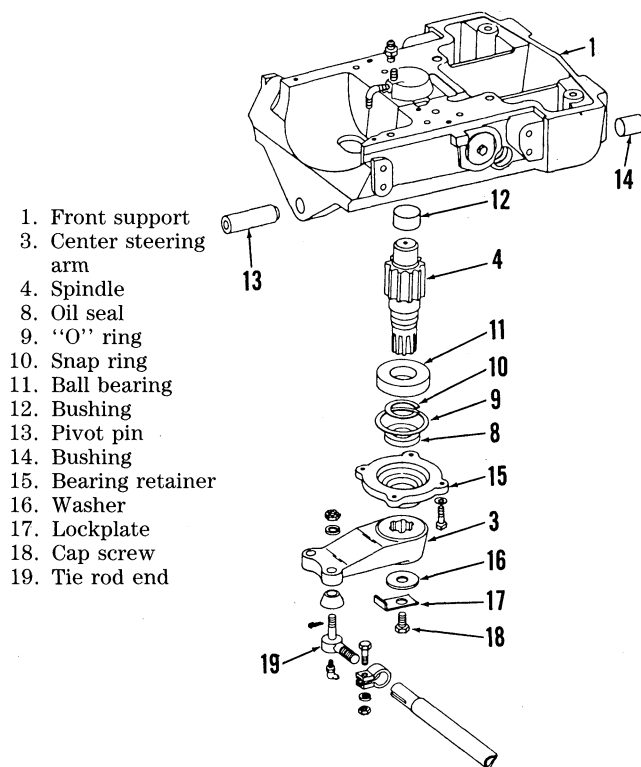

Fig.1—Partially exploded view of front axle support assembly used on 4050, 4250 and 4450 tractors. Support assembly used on 4650 and 4850 tractors is similar.
1. AXLE HOUSING AND PIVOT BRACKET. The front axle attaches to the front support (1—Fig. 1). Clearance between axle pivot pins (13—Fig. 1 and 2—Fig. 2) and bushings (14—Fig. 1 and 1—Fig. 2) should not exceed 0.080 inch (2 mm).